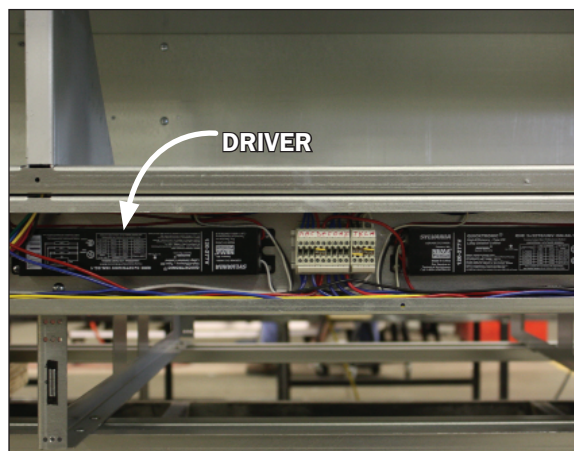

Fig. 8 Electrical raceway
1. Depending on the length of the case; the electrical raceway can be located at outside back of the case behind the rear panel (Fig. 8).